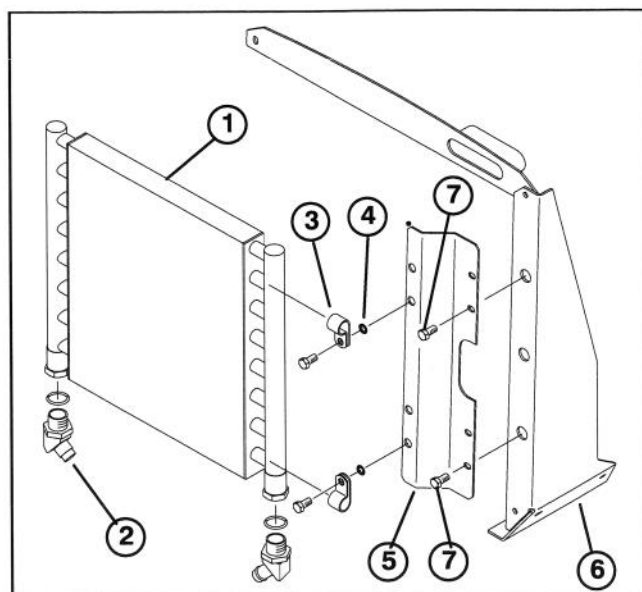

Figure 8
6. Thread a 45° barb fitting into bottom of each tube of new oil cooler (Fig. 8). Tighten each fitting until nut contacts cooler, then, back out until fitting is positioned inward and approximately 30° rearward. Tighten fitting nuts.
7. Insert (4) R-clamps (Fig. 8) onto oil cooler cross tubes positioning clamps as follows:
8. Insert a 3/8–16 x 3/4" lg. capscrew through each R-clamp and secure with a retaining ring. Position capscrews as shown in figure 8.
9. Loosely secure new cooler mounting brackets to R-clamp capscrews as shown in figure 8.
10. Remove existing capscrews securing radiator to support braces. Only remove capscrews shown in figure 8. Do not loosen or remove middle capscrew.
16. Using capscrews previously removed and hole locations shown in figure 8, mount new oil cooler to support braces. Tighten all oil cooler mounting fasteners.